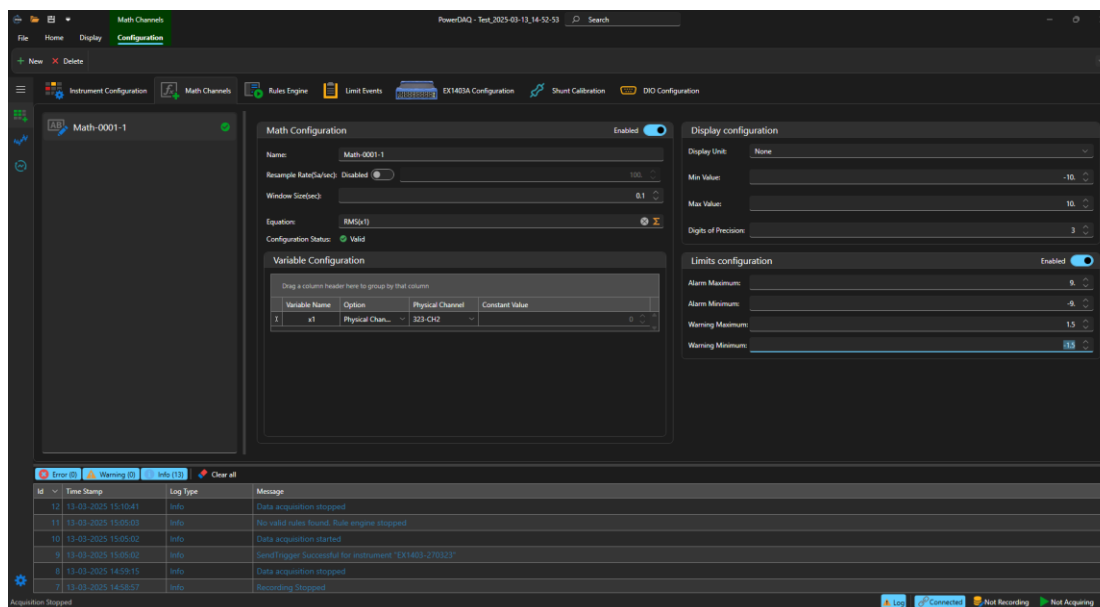

Figure 43. Math Channel Configuration
9. You can configure the min value, max value, digits of precision, warning limits, and alarming limits for the math function. Refer to Figure 43.